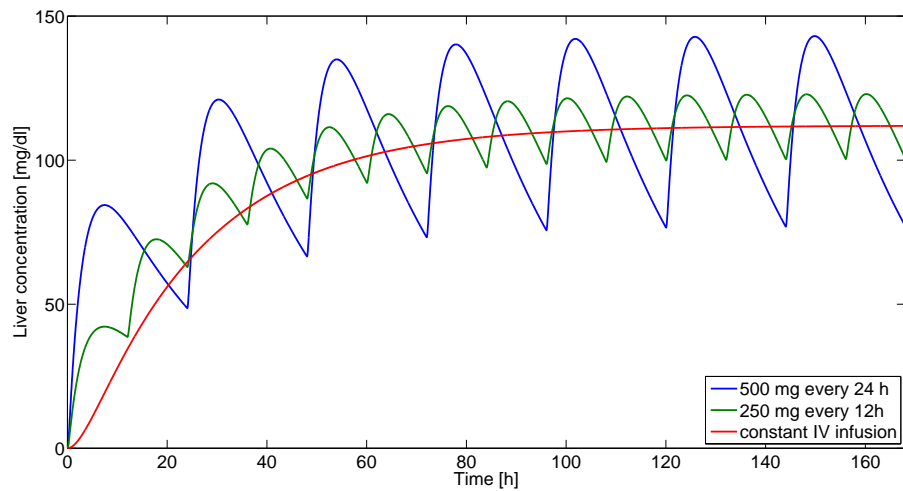

Figure 5.2 Liver concentration at different medication strategies
- d. Simulating the system with an oral prescription of 500mg over five minutes every 24 hours produces the blue curve in Fig.5.2. The output oscillates heavily with a 24 hour period. An alternative medication strategy is to administer the drug in half the dose every 12 hours instead, which is shown by the green curve.
Simulations in Matlab, illustrated by the red curve in Fig 5.2, confirms that the constant intravenous injection eliminates the oscillations of the drug concentration in the liver.